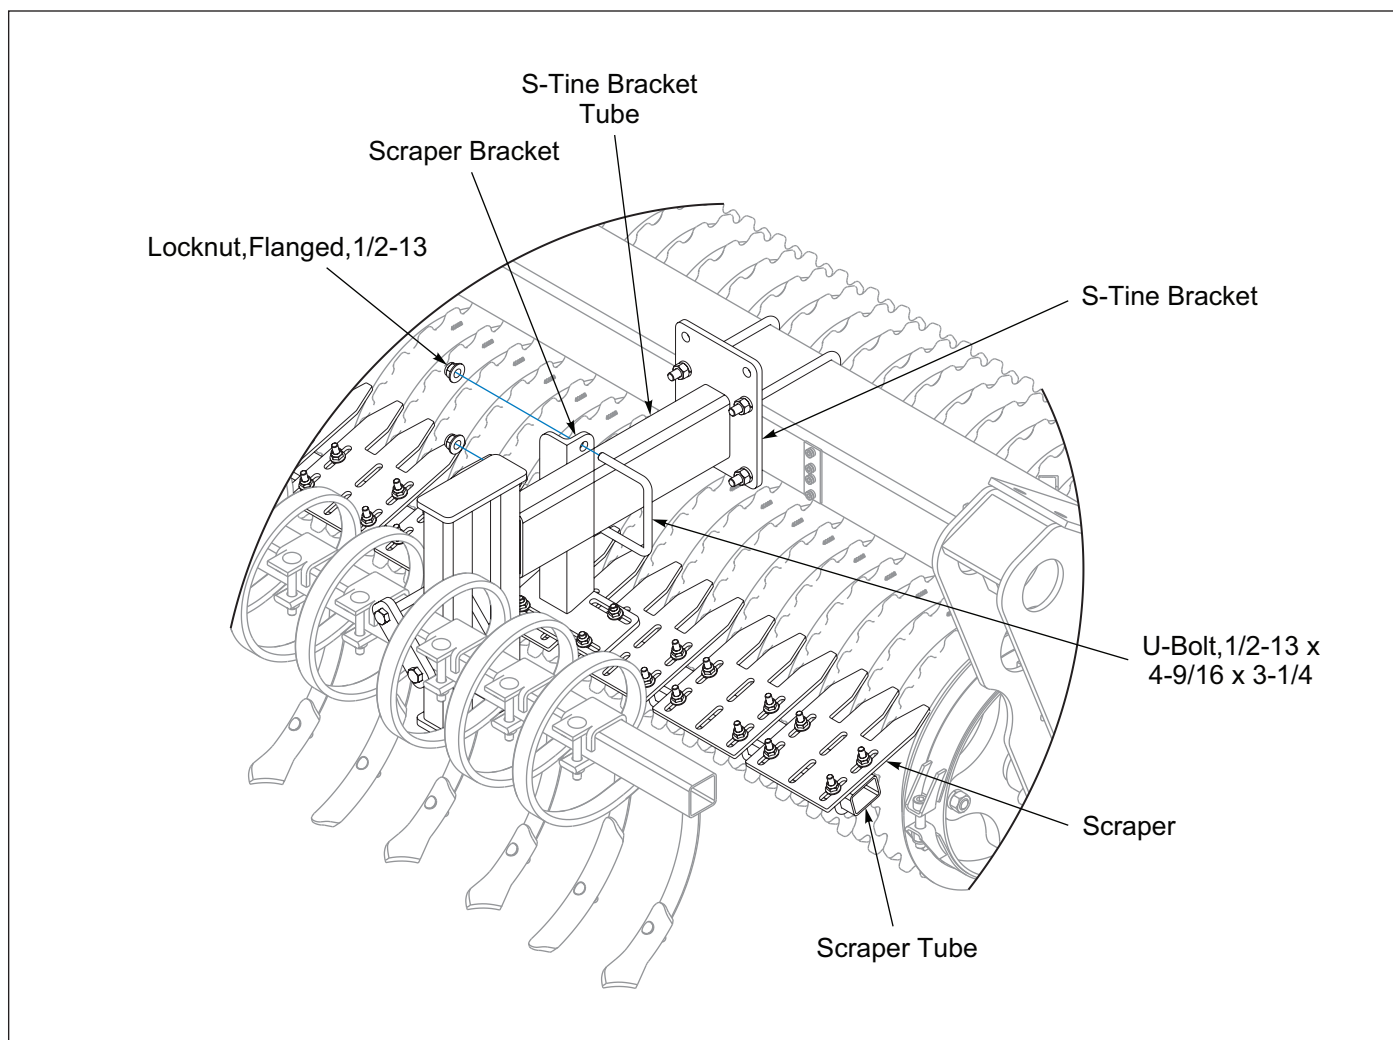

Figure 2-52: Tube Mounted Scrapers with S-Tine Tire Track Remover
S-Tine Tire Track Remover Kit can be used with Scraper Kit. Do Not mount the outer Brackets with the 4-Hole Plate to the front of the Seeder Frame Tube. Attach the outer Scraper Bracket Angle to the Tire Track Remover Kit S-Tine Bracket Tube with a 1/2-13 x 4-9/16 x 3-1/4 U-Bolt and Flange Locknuts. **See Figure 2-52.**
*Scraper Kit can be used with the S-Tine Tire Track Remover. Attach the outer Scraper Bracket Angle to the S-Tine Bracket Tube. Outer Scraper Kit Brackets with the 4-Hole Plate are not used. **See Figure 2-52.** It may be necessary to adjust the Scraper Brackets on the Scraper Assembly for proper positioning of the Scrapers to the Front Roller Wheels.*